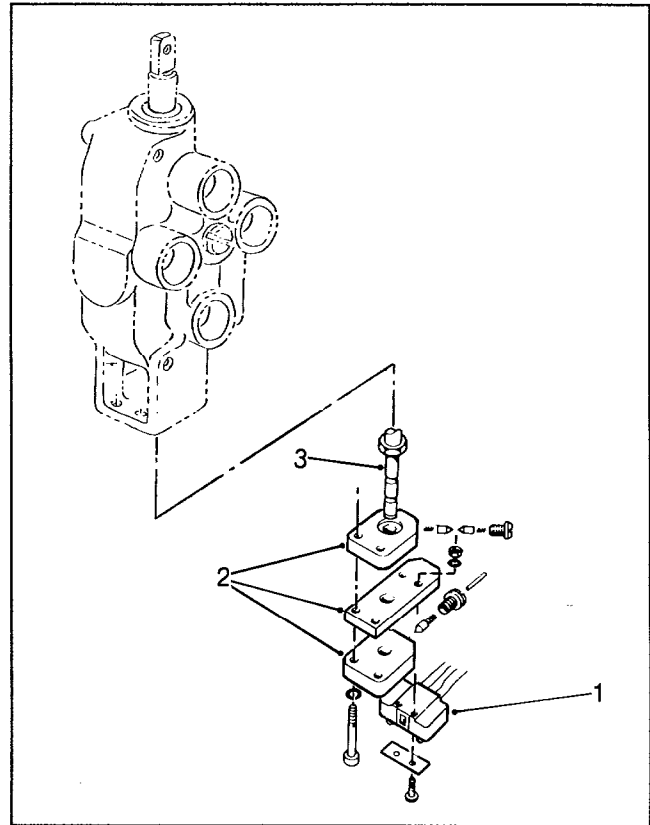

Figure 1
2. Remove and discard the (2) detent blocks, mounting plate and spool extension from the bottom of the valve (Fig.1).